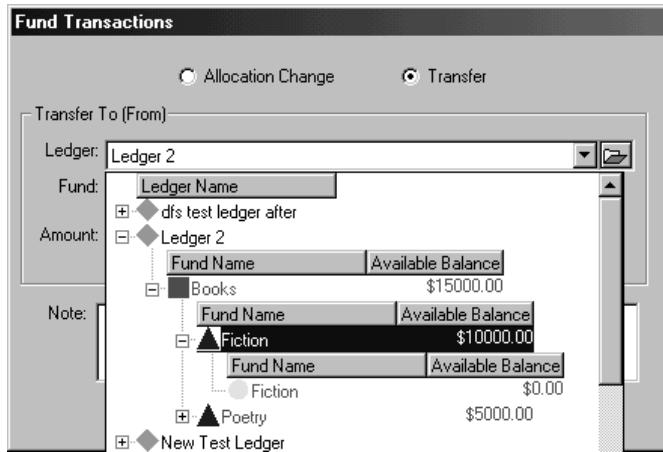

Figure 5-31. Ledger/Fund hierarchy displayed in the Ledger field
- If you want to select a fund from a ledger/fund hierarchy rather than typing the fund code into the **Fund** field, click the **folder** button beside the **Ledger** field. This displays a hierarchy of available ledgers and funds see (Figure 5-31). To aid you in selecting an appropriate fund, each fund's available balance displays within the hierarchy.